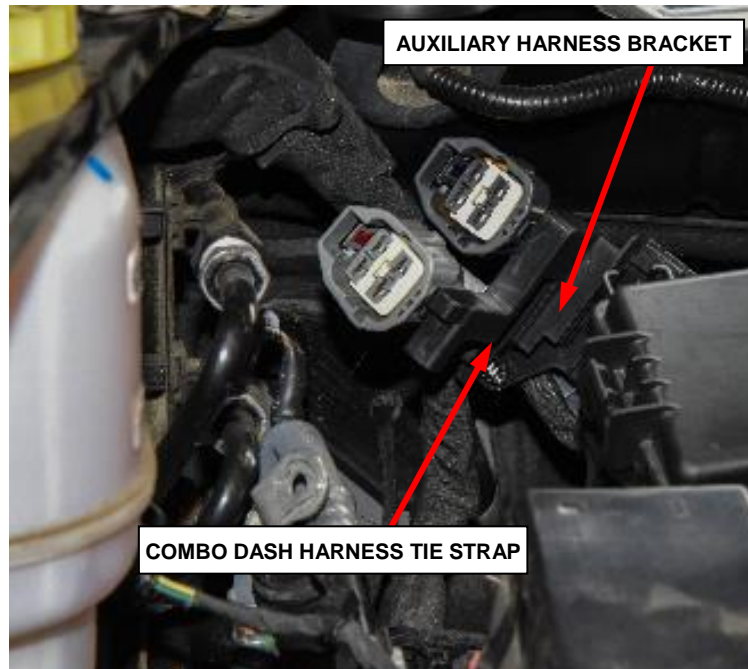

Figure 16 – Auxiliary Harness Bracket to Forward I/P Harness
20. Carefully remove the original fir tree tie strap from the combo dash harness. Secure the auxiliary harness bracket to the combo dash harness fir tree tie strap (Figure 16).